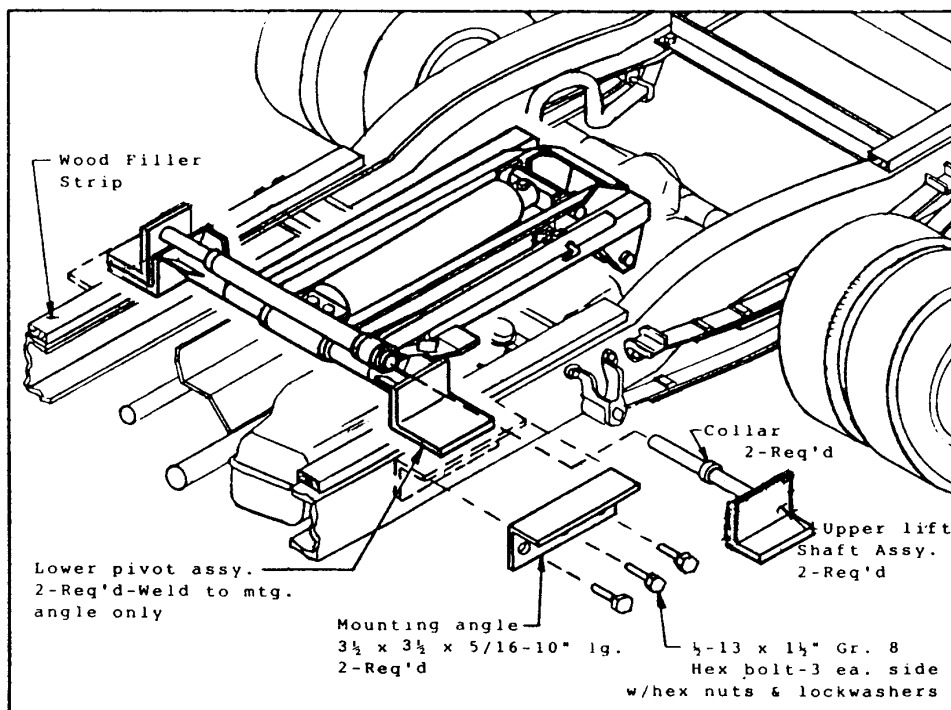

Figure 3 Mounting Angle/Lower Pivot Assembly
4. Locate the hoist on the truck frame, making sure to center and square the hoist to the truck frame. The VC-416/516 hoist is designed to rest on the truck frame as shown in Fig. 3 . A section of the hoist extends below the truck frame level, thus the hoist may have to be moved slightly forward or backward to avoid frame crossmembers. The distance between the rear hinge assembly center and the hoist dimension. Table "A", figure 1 refers to dump angles associated with the "M" dimension.
5. After the hoist is positioned, place a mounting angle (Fig. 3) under each of the lower pivots and against the truck frame. Clamp securely in place. Drill through the mtg. angle and frame ($17/32$ ") and fasten mounting angle with three (3) $1-1/2$ " hex head grade 8 bolts, lock washers and hex nuts (both sides).
6. With the hoist lower pivot assys. clamped to the mounting angles ($3-1/2 \times 3-1/2 \times 5/16$ - 10" lg.), weld the lower pivot assys. to the mounting angles. Position and secure the filler strips (wood or steel) to the truck frame (see fig. 3). The VC-416/516 hoist requires at least $5-3/4$ " clearance above the truck frame.